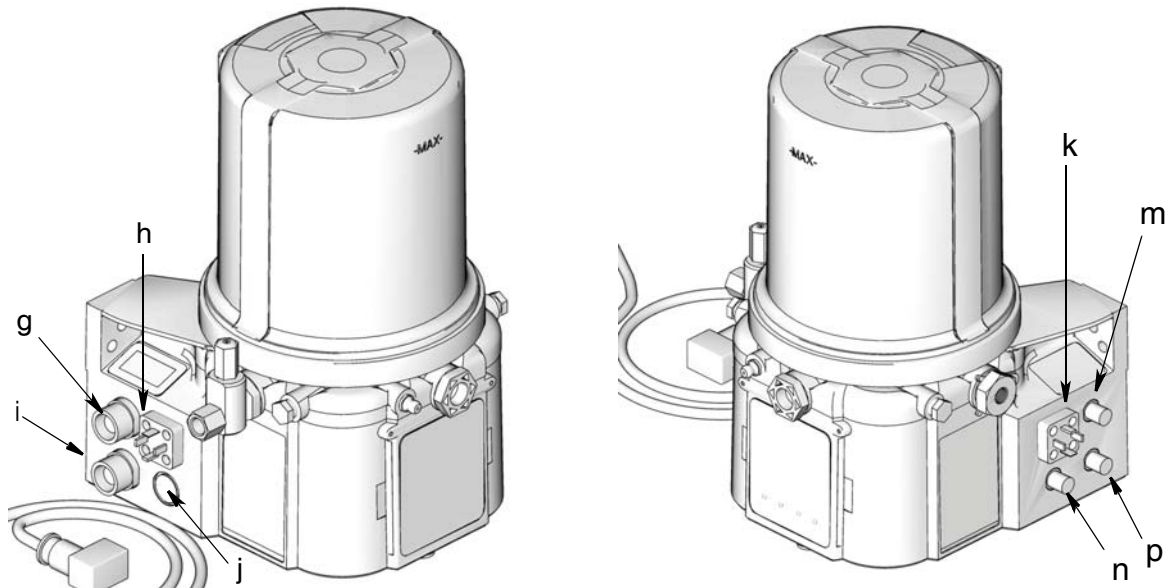

FIG. 1
**NOTE: Codes g - p** relate to a specific location on the G3 pump. See FIG. 1 for these locations.